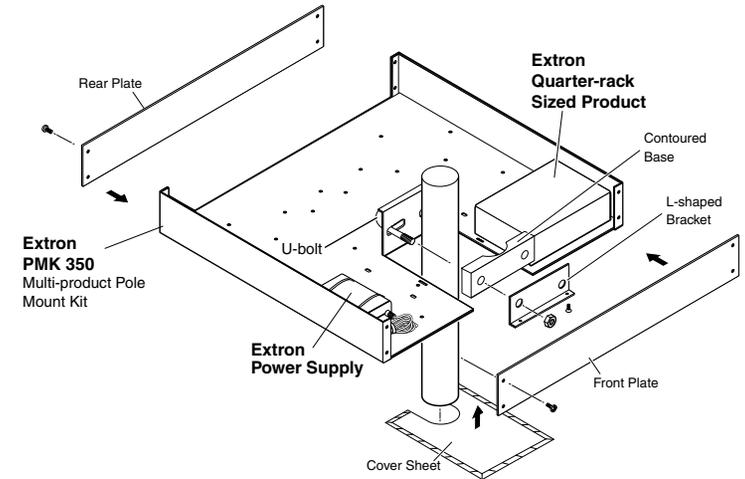

Figure 2-7 — PMK 350 projector mounting a receiver
1. Remove the front and rear plates from the PMK 350 (figure 2-7), using an Extron Tweezer or a #2 Philips screwdriver. Retain the screws to reattach the plates when you are finished.
5. Place the PMK 350 around the projector ceiling mounting pole (figure 2-7).